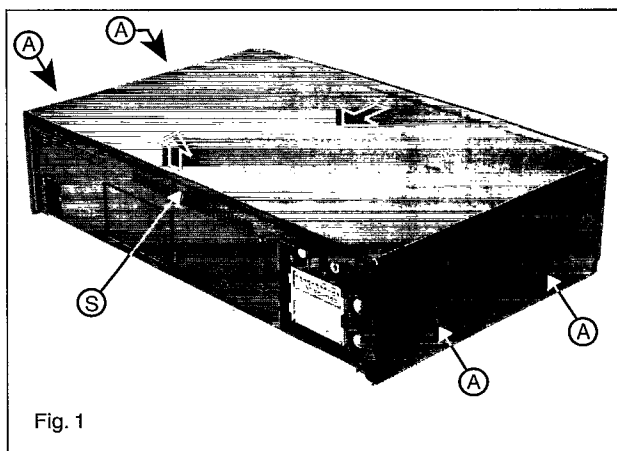

Fig. 1
1. Housing cover (Fig. 1)
- Remove the four screws (A).
- Push catch (S) inwards, lifting lid at the same time to move out of groove.